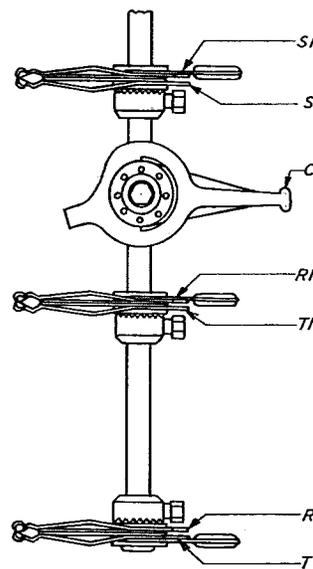

FIG. 49 - BANK WIPER TERMINAL DESIGNATIONS - 197 AND 198 TYPE SWITCHES
3.03 Wipers: When it is necessary to connect to one or more wipers of a switch, the wipers to which connections should be made are indicated by the symbol WPR followed by the particular designation of that wiper as shown on the associated circuit schematic drawing. The bank wipers referred to in the circuit requirement table appear on the schematic drawing in the same order in which they are located on the switch shaft. Fig. 49 shows the relative location of the wipers on a 200 point line finder and the designations given for them on the schematic drawing. On switches
having four bank wipers the wipers are designated as shown in Fig. 49 except that the added wiper at the bottom has the designation A1 and A.